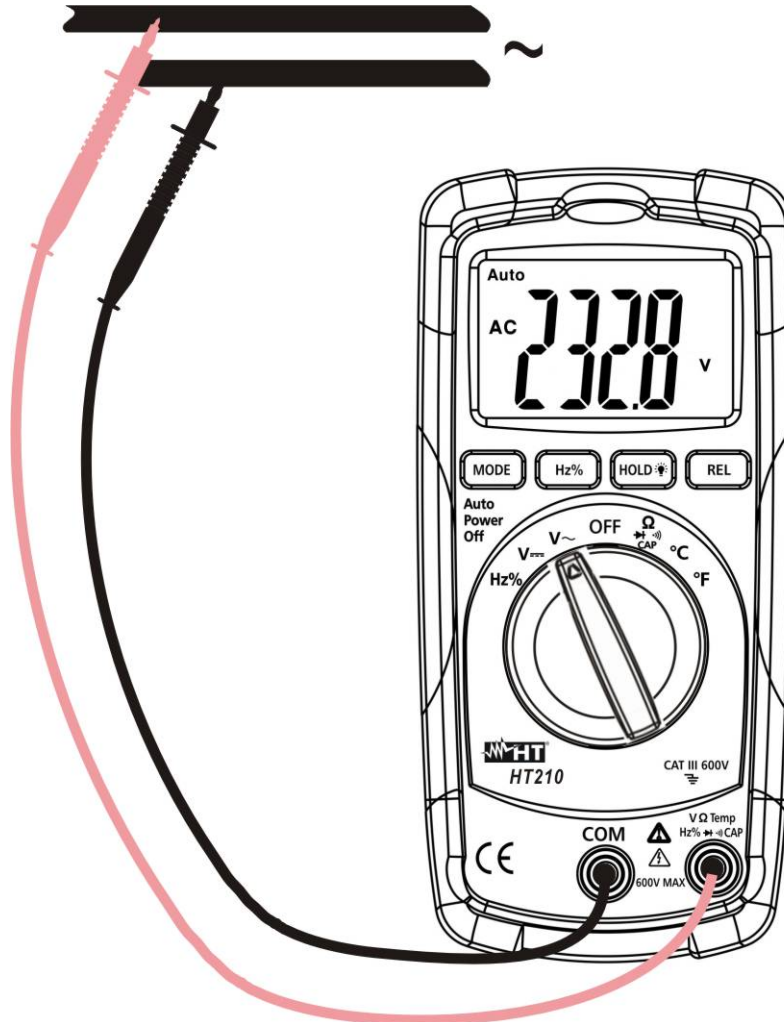

Fig. 3: Using the instrument for AC voltage measurement
2. Insert the test leads into the jacks, the red plug into $V\Omega Temp Hz\% CAP \rightarrow \rightarrow \rightarrow$ jack and black plug into **COM** jack (see Fig. 3)